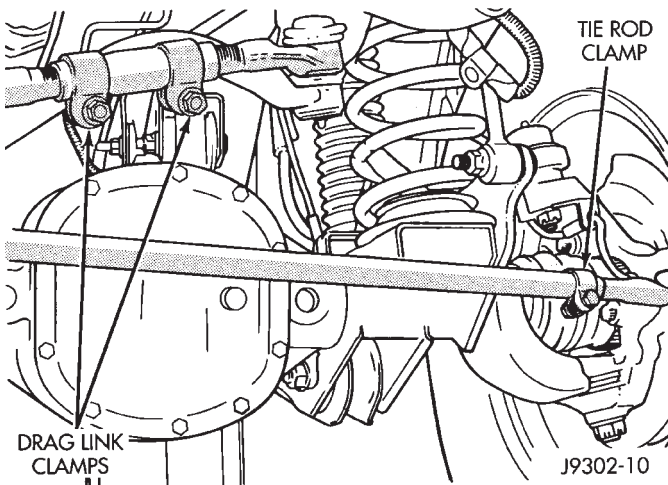

Fig. 2 Tie Rod/Drag Link Clamp Bolt
(1) If necessary, install the tie rod ends in the tube. Position the tie rod clamp (Fig. 2) and tighten to 27 N·m (20 ft. lbs.).
(2) Install the tie rod on the drag link and steering knuckle.
(3) Tighten the ball stud nut on the steering knuckle to 47 N·m (35 ft. lbs.). Tighten the ball stud nut to drag link to 47 N·m (35 ft. lbs.) torque. Install new cotter pins.
(1) Install the drag link adjustment sleeve and tie rod end. Position clamp bolts (Fig. 2).
(2) Position the drag link at the steering linkage. Install the drag link to the steering knuckle nut. Do the same for the tie rod and pitman arm.
(3) Tighten the nut at the steering knuckle to 47 N·m (35 ft. lbs.). Tighten the pitman nut to 81 N·m (60 ft. lbs.) and tie rod ball stud nut to 47 N·m (35 ft. lbs.). Install new cotter pins and bend end 60°.
(4) Install the steering dampener onto the drag link and tighten the nut to 74 N·m (55 ft. lbs.). Install a new cotter pin and bend end 60°.